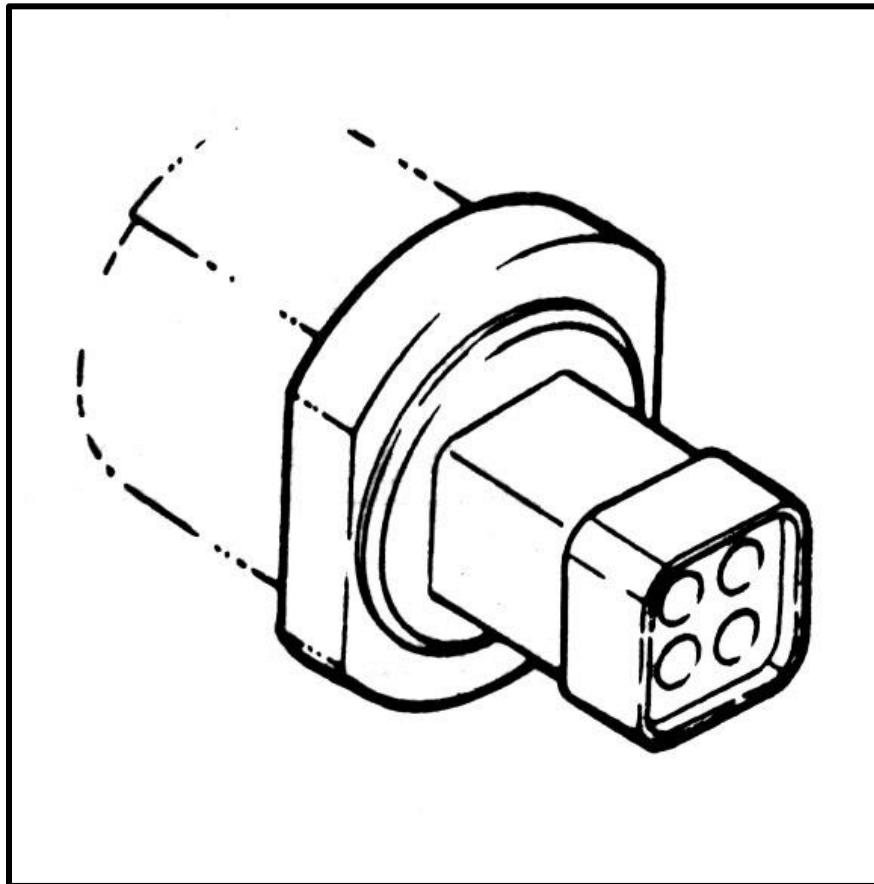

Figure 6.7 TCC Solenoid
1. If the throttle position sensor on your throttle body is different from the one illustrated in **Figure 6.7**, use the adapter provided in the kit.
- B. If you ARE using the lockup function, route the square 4-position connector to the transmission and attach it to the solenoid, **Figure 6.7**.